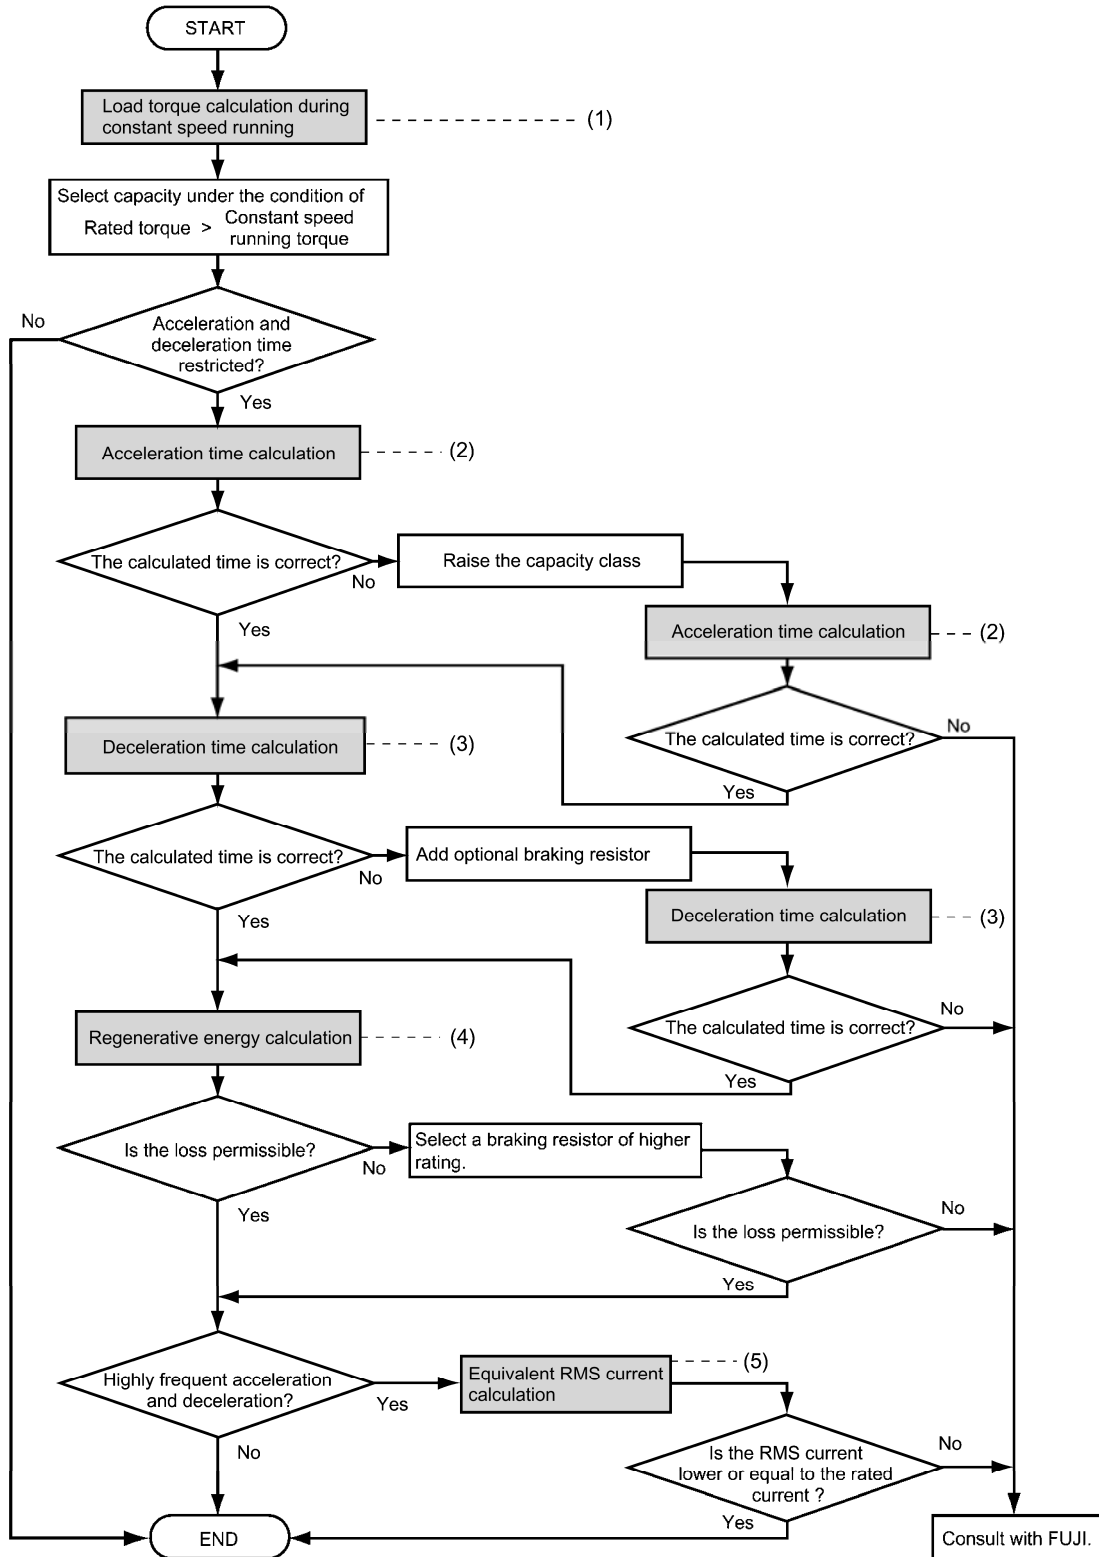

Figure 9.2 Selection Procedure
Figure 9.2 shows the general selection procedure for optimal inverters. Items numbered (1) through (5) are described on the following pages.